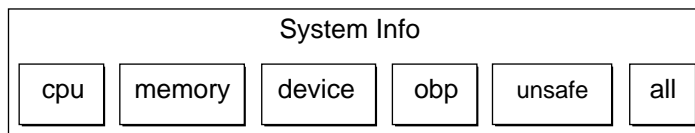

FIGURE 3-6 System Information Buttons
- **Click on any of the System Info buttons during the DR operation** (FIGURE 3-6).